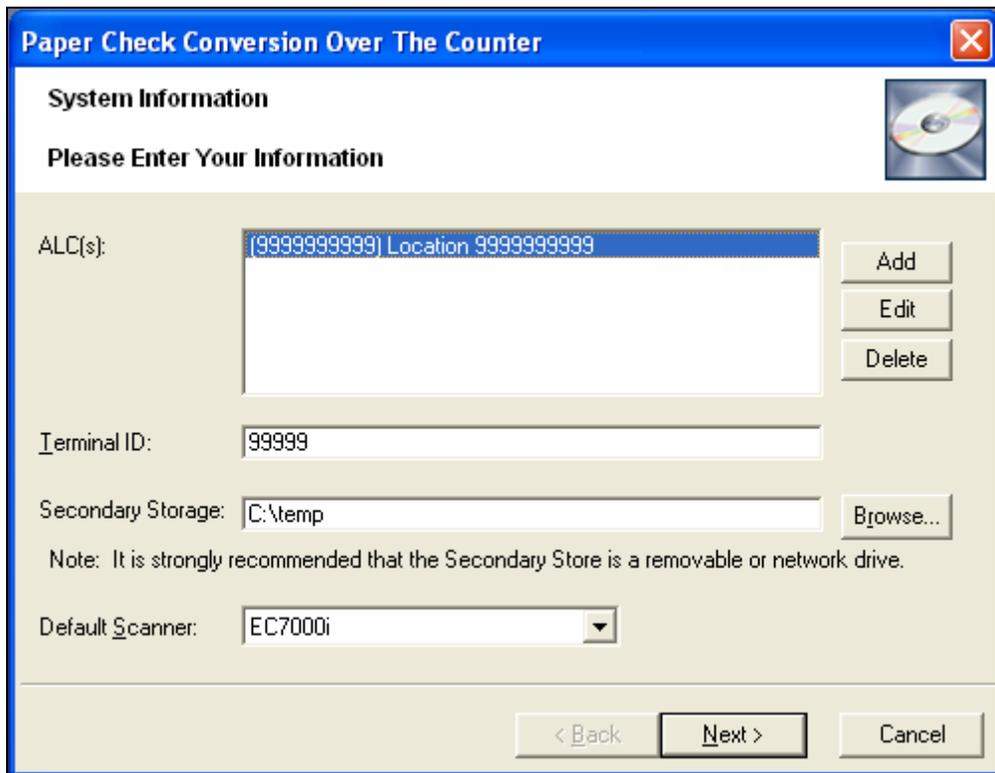

Figure 2.25.3
5. A System Configuration screen will appear as pictured in Figure 2.25.3.